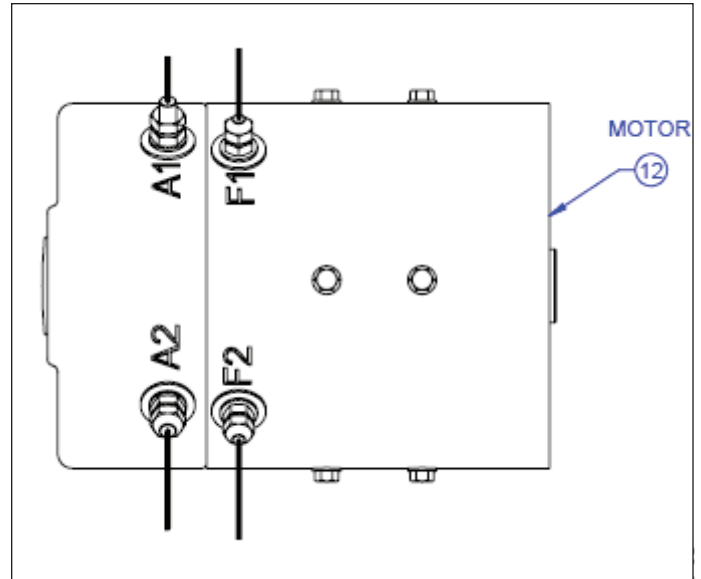

Figure 7-3. Labeling Motor Terminals
3. Label the motor terminals (Figure 7-3).